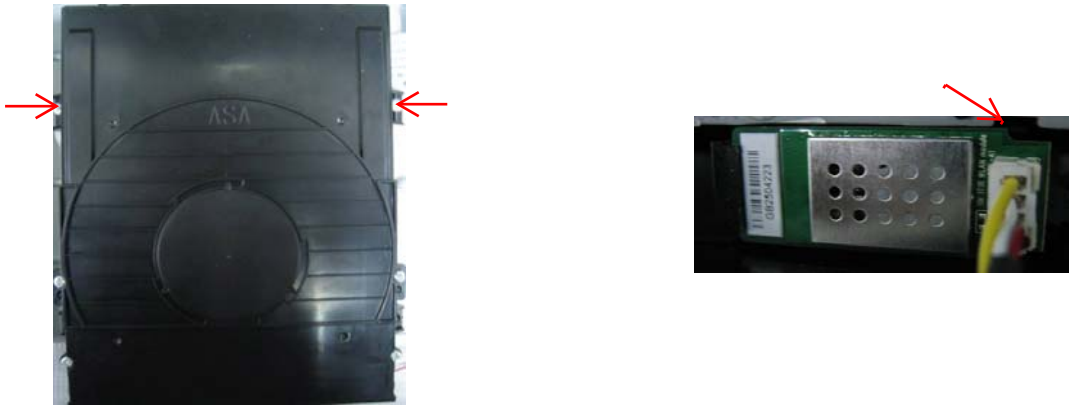

Figure 5
Step5: Dismantling Loader, disconnect the 3 connectors (XP15,XP13,XP6)(Figure 3)aiming in the below figure, and remove 2 screws . (Figure 5)
Step6:Dismantling WIFI Board, need release 1 snap of WIFI Board , then gently pull the Panel out from the set. (Figure 5)